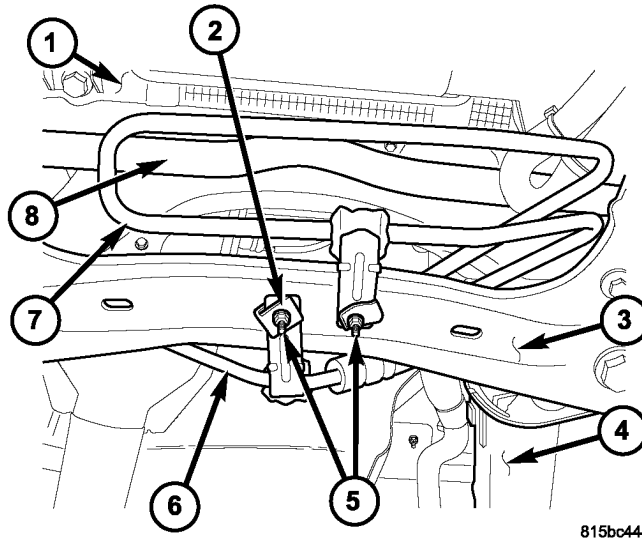

Fig. 1 POWER STEERING COOLER LOOP
9. Locate the bracket connecting the power steering return line cooler loop to the cradle reinforcement plate (Fig. 1).
11. Locate the bracket connecting the power steering pressure line to the cradle reinforcement plate (Fig. 1).